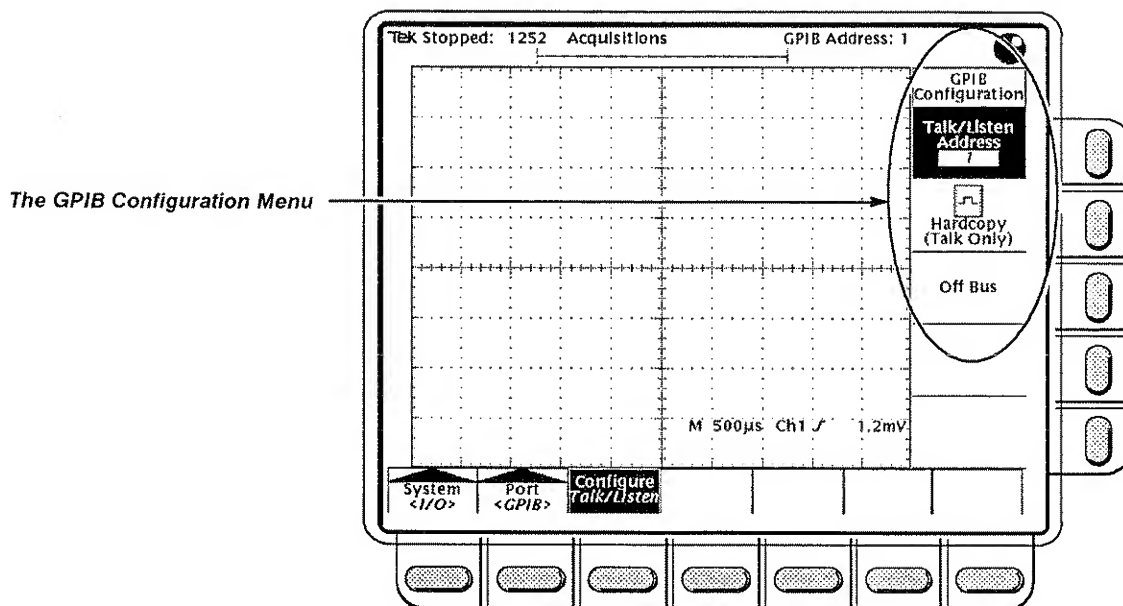

Figure 3-55: Utility Menu
- ☐ **Step 1:** Press the **UTILITY** (**SHIFT** and then **DISPLAY**) button to reach the Utility menu (Figure 3-55).